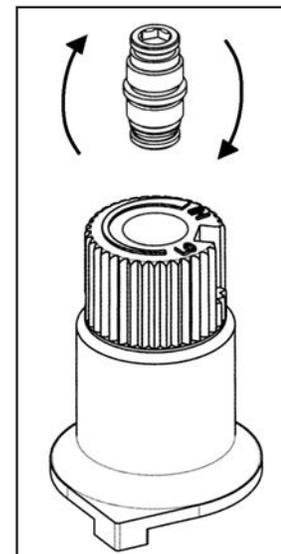

Figure 40: Flip valve screw.
- d) Flip the screw (refer to Figure 40).
- e) Using the Allen wrench as shown in Figure 40, rotate the screw clockwise until a torque of 9 inch lbs. **WARNING!** Do not over tighten the screw. It is recommended that you grip the wrench by the short side.